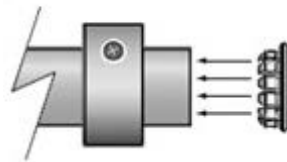

Fig. 5
1. Install the End Cap by pressing it into the end of the pipe (Fig. 5).